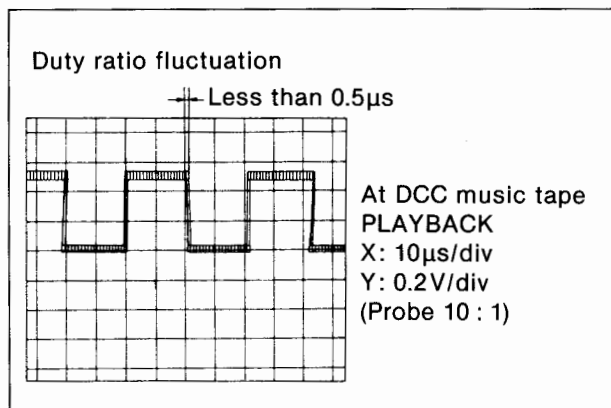

Fig. 1
1. Connect an oscilloscope to **IC503 pin ⑩** on the **digital P.C.B.**
2. Load a **DCC music tape** into the unit under test and put the unit in **PLAY mode**. When the capstan servo is locked, a **square wave with a duty ratio fluctuation of less than 0.5μs** will be observed on the scope (see Fig. 1). Unlock the servo and verify that the muting function is active.